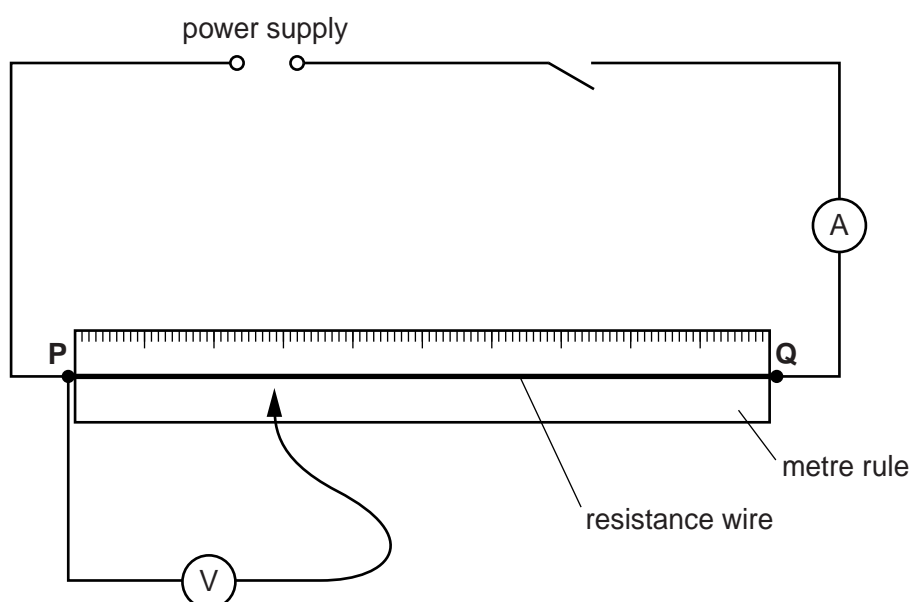

Fig. 3.1
- (vi) Two suitable terminals (e.g. crocodile clips) attached to the constantan wire at ends **P** and **Q** of the metre rule so that connections can be made to the circuit shown in Fig. 3.1. See note 2.
- (viii) Sufficient connecting leads to set up the circuit shown in Fig. 3.1.
1. The circuit must be set up for the candidates as shown in Fig. 3.1.
Check that the circuit is as shown in Fig. 3.1.